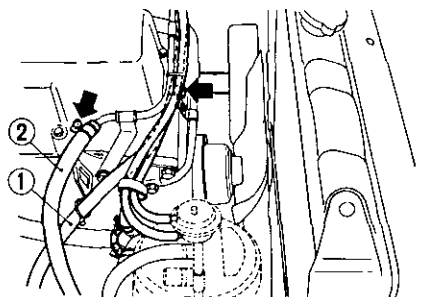

Fig. ER-9 Disconnecting fuel hoses
- Fuel return hose ① and fuel charge hose ②. See Figure ER-9.